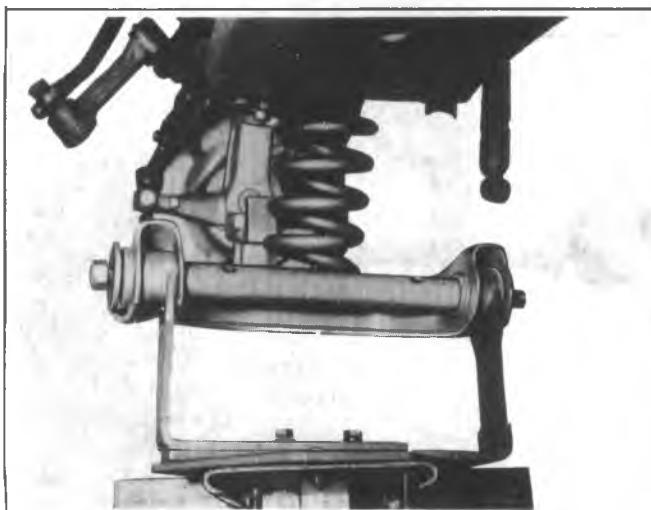

Fig. 3C-24--Lowering Control Arm for Bushing Replacement
3. Install remaining bushing as shown in Figure 3C-23 and described in step 1.